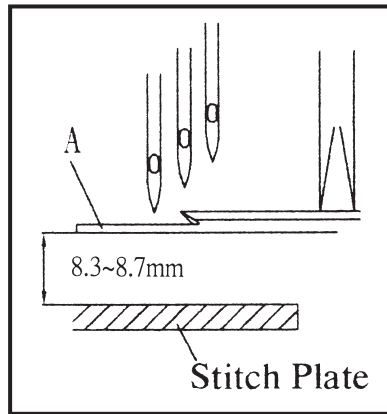

Fig.34
Adjust the height of undersurface of Spreader (A) above the top surface of Stitch Plate to be 8.3~8.7mm (Fig.34)